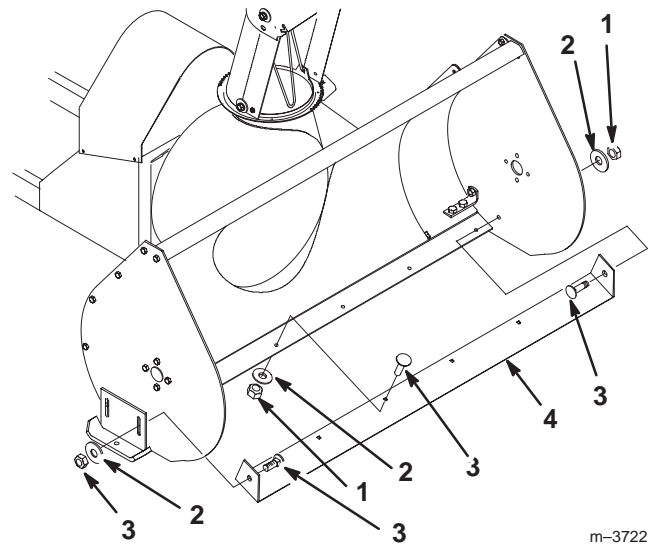

Figure 48
3. Remove the nuts, washers, carriage bolts, and scraper blade (Fig. 48).
4. Install a new scraper blade with the previously removed hardware (Fig. 48).